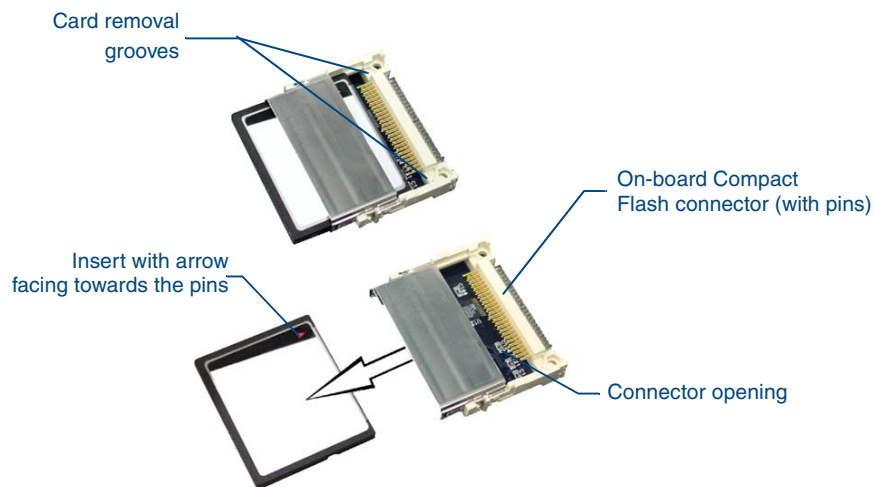

FIG. 15 Removing/installing a Compact Flash Memory card
2. Insert the tip of a grounded flat-head screwdriver into one of the card removal grooves (located on either side of the existing card), and gently pry the card out of the slot (FIG. 15). Repeat this process on the opposite card removal groove. This alternating action causes the card to "wobble" away from the on-board connector pins.